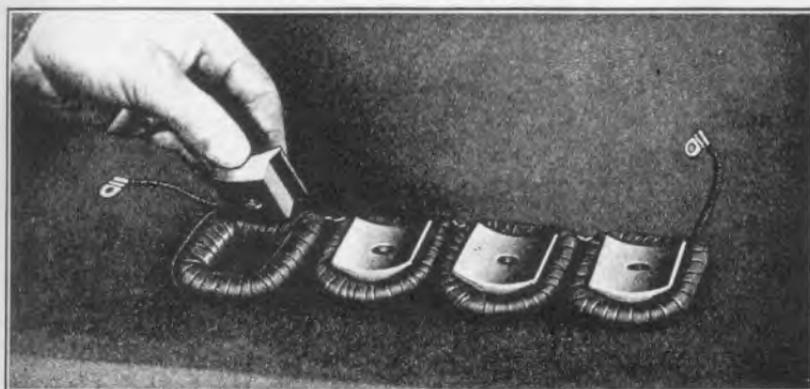

Fig. 464
- 921 Examine pole pieces to see that they are free from burrs. Inspect insulation on field coils. Examine field coil leads to make sure wires are not broken and that all soldered connections are tight. If insulation is broken, it can be repaired by taping. When coils and leads are O. K. position the four pole pieces in field windings as shown in Fig. 464.